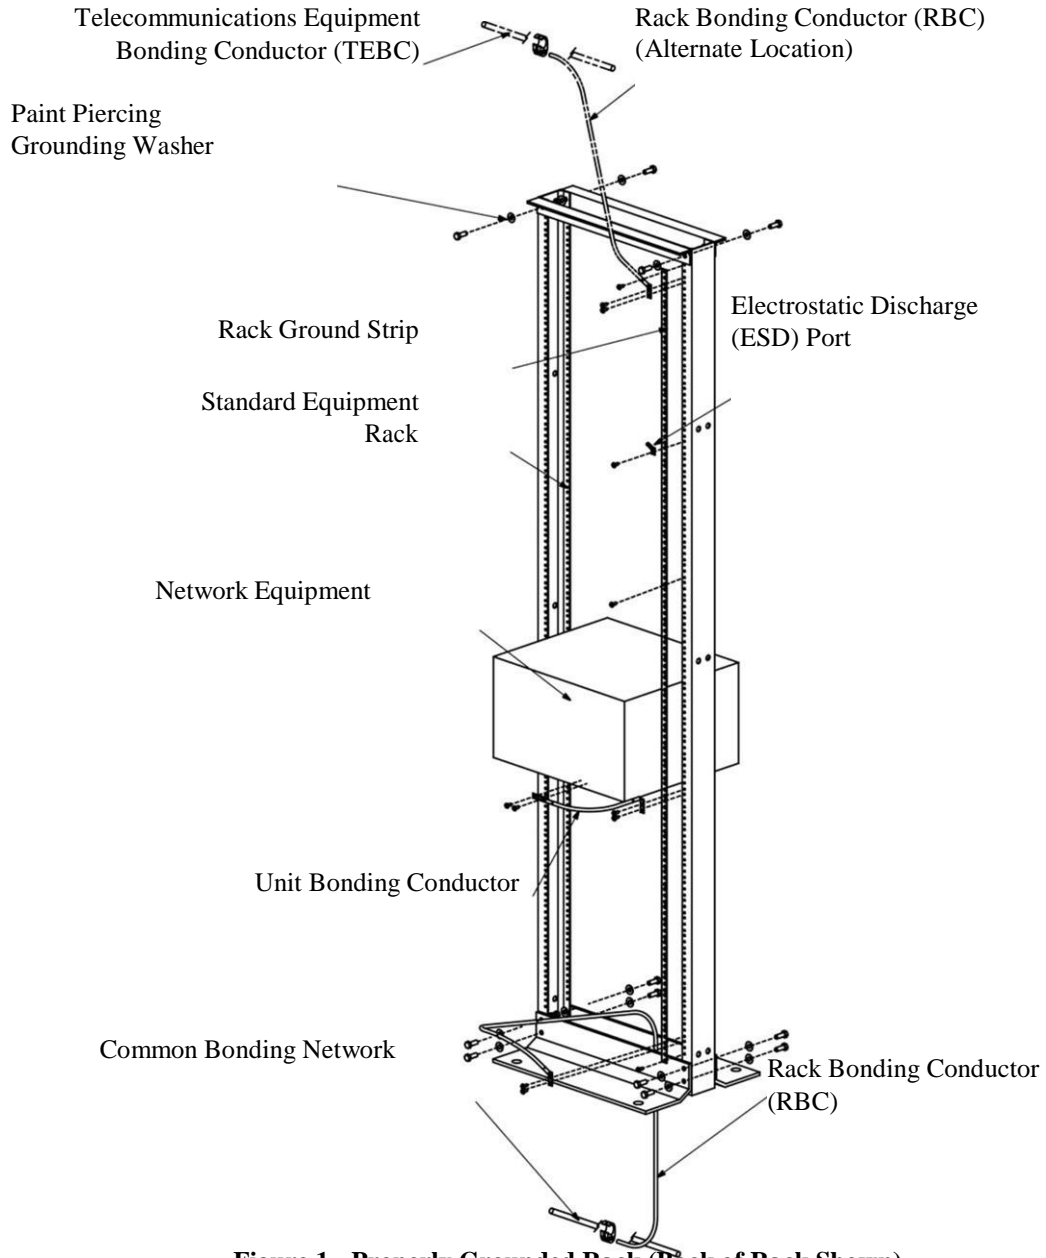

Figure 1 - Properly Grounded Rack (Back of Rack Shown)
3. The faceplate shall be labeled using the Mercy naming convention and a machine-generated black-on-white label using a label-making device, such as the Brother “P-touch” labeler or equivalent (see Fig. 1 for exact placement). **Handwritten labeling on the faceplate is not allowed.** A non-serif font of sufficient size that is easily read should be used.